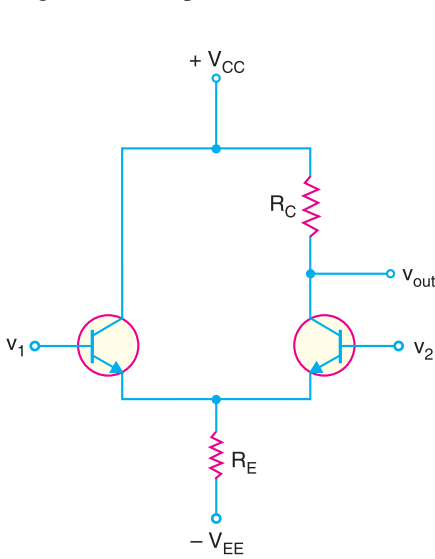
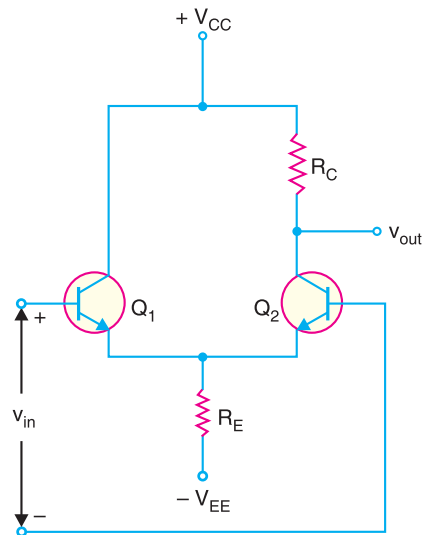
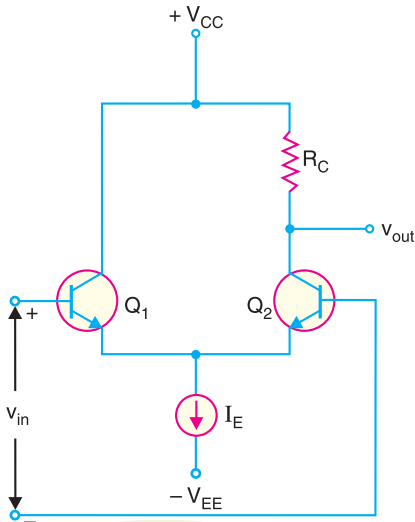
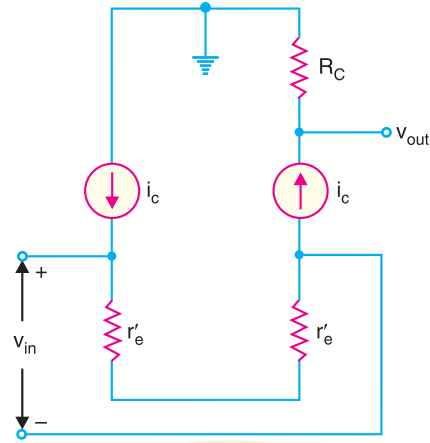

Fig. 25.27
Fig. 25.28
Fig. 25.29
Fig. 25.30
A differential amplifier (DA) has a noninverting input and an inverting input. Fig. 25.27 shows the differential amplifier (DA) that is used in IC OP- amps. Note the circuit has double-ended input and single-ended output.
If you look at the differential amplifier circuit in Fig. 25.27, it responds to the difference between the voltages at the two input terminals. In other words, DA responds to $v_{in} (= v_1 - v_2)$. Therefore, the circuit shown in Fig. 25.27 can be drawn as shown in Fig. 25.28.
Ideally (i.e., V_{BE} is negligible), the tail current I_E in Fig. 25.27 is $I_E = V_{EE}/R_E$. Once the values of V_{EE} and R_E are set, the tail current is constant. Therefore, to simplify a.c. analysis, we can replace the tail current by a current source (I_E) as shown in Fig. 25.29. This will simplify the a.c. analysis of the circuit with almost no loss of accuracy.
A.C. Equivalent Circuit. We can easily find the a.c. equivalent circuit of differential amplifier by applying the usual rules to Fig. 25.29. The rules are to short all the capacitors, and reduce all d.c. sources to zero. Since a differential amplifier has no capacitors, all that we have to do is to reduce the d.c. sources to zero. Reducing a voltage source to zero is equivalent to replacing it by a short. Reducing a current source to zero is equivalent to opening it. In Fig. 25.29, this means ground the V_{CC} point, ground the V_{EE} point and open the current source. Applying these conditions to Fig. 25.29, we get the a.c. equivalent circuit of differential amplifier shown in Fig. 25.30.
Voltage gain. Fig. 25.30 shows the a.c. equivalent circuit of a differential amplifier. This is how a differential amplifier looks to an a.c. signal. Note that r'_e ($= 25 \text{ mV/d.c. emitter current}$) is the a.c. emitter resistance. Since the two r'_e s are in series, the same a.c. emitter current exists in both transistors. The a.c. emitter current is given by;